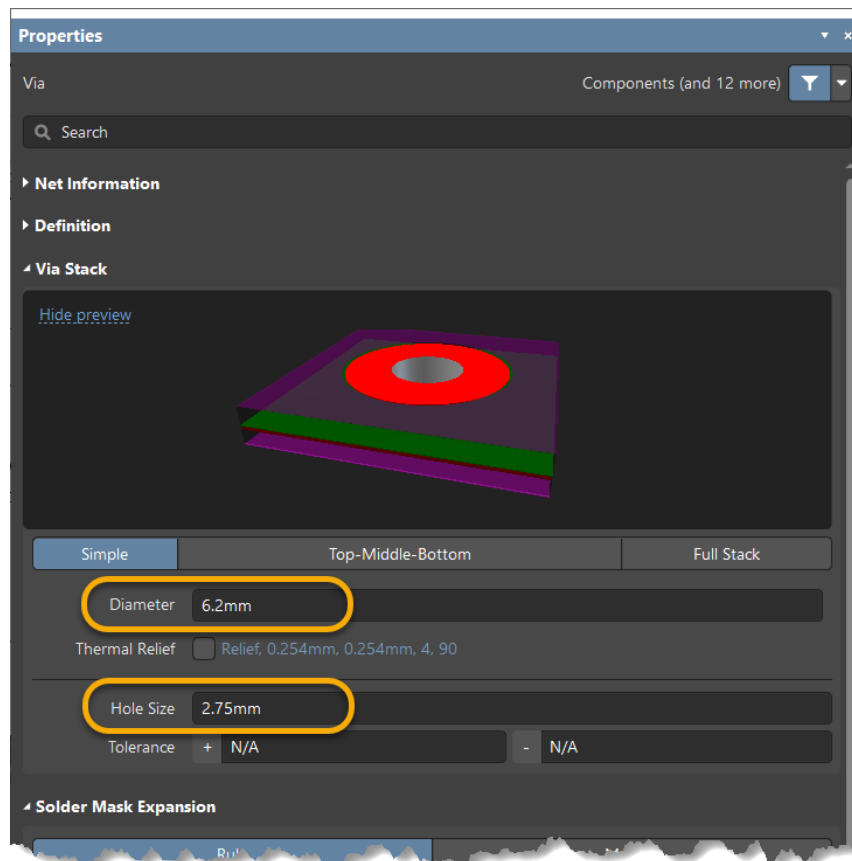

Figure 2. Via as MH Configuration
19. Press **Tab** key to open the *Properties* panel. Configure the Via with the following parameters, as seen at Figure 2: